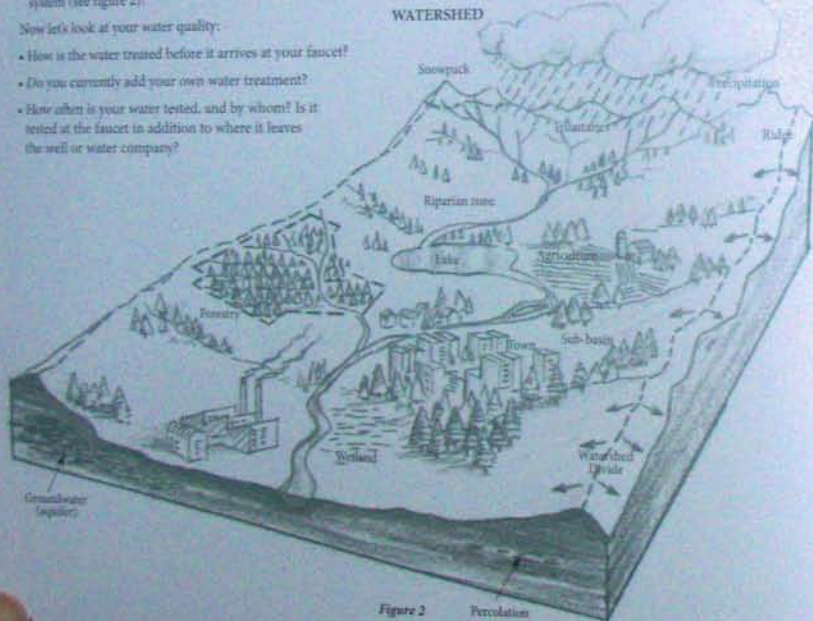

Figure 2 Percolation
- Does your water source replenish itself faster than you draw water out, individually or as a community? (In many areas, the underground water table is getting lower, while the concentration of solids in the water is increasing to an unhealthy degree.) How extensive is the watershed that feeds your water system (see figure 2)?